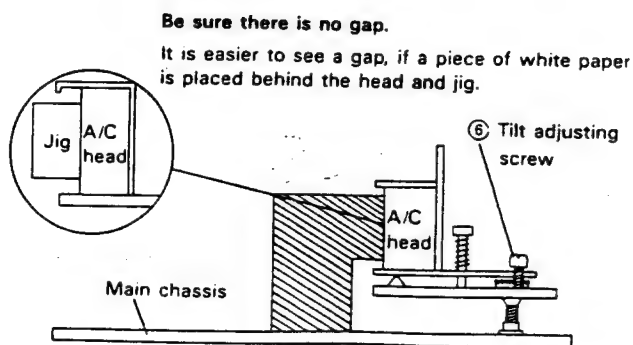

Figure 1-22.
6. Set the A/C head tilt angle according to Fig. 1-22.
2. Set the tilt angle of the A/C head as shown in Fig. 1-22.